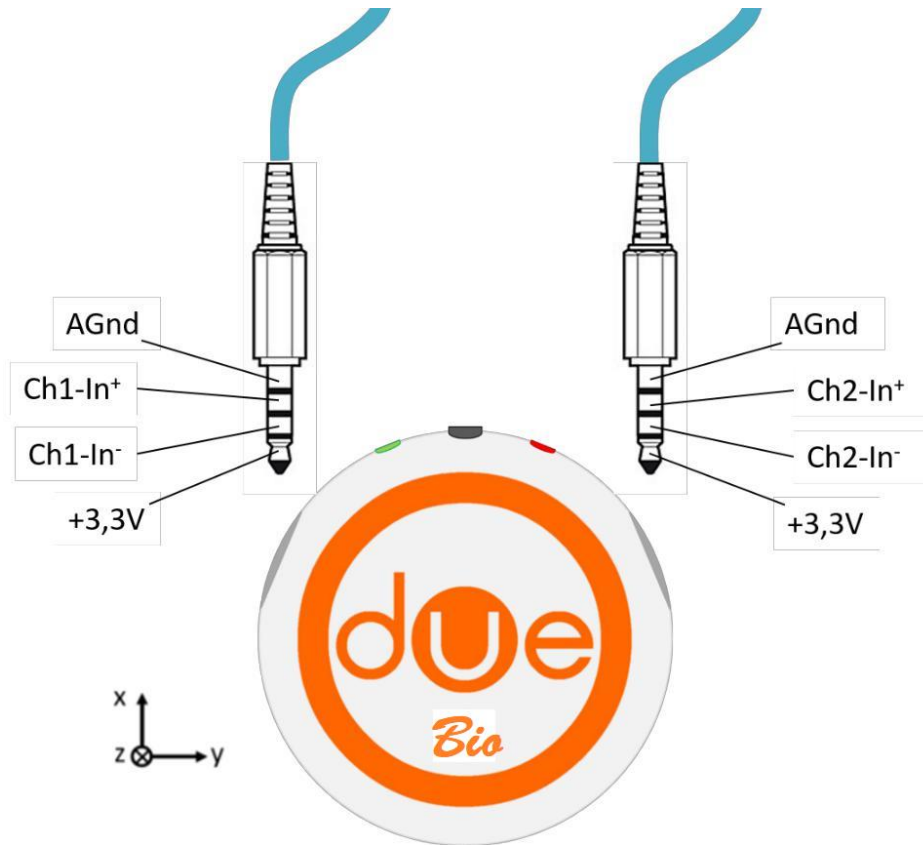

FIG. 7.5: Pinout connectors of DueBio probe.
The DueBio probe has two audio jack connectors (female - 4-pole - 3.5 mm) to connect the analog input channels. For specific configurations, refer to section 7.2.2 (Hardware configuration and setup). The regulated 3.3 V DC power output lines are provided in each input connector to directly power connected sensors without using external power. The pinout of the connectors is shown in Figure 7.5.
- **IMU:** inertial measurement unit on board. It is possible to acquire inertial data (triaxial accelerometer, triaxial gyroscope and triaxial magnetometer) with a sampling frequency of 100 Hz and a resolution of 16 bits. See Section 6 - TECHNICAL SPECIFICATIONS for details. The IMU is embedded in the board, so no connection is required to acquire these types of signals. See Figure 7.5 to find out how the Cartesian IMU axes are oriented relative to the center of the DueBio probe.